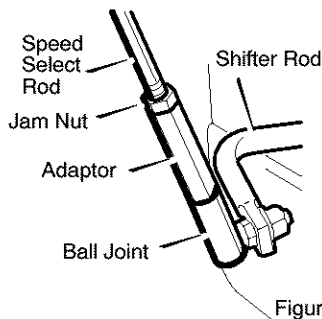

Figure 50
2. Loosen hex **jam nut** on **speed select rod**. Remove **ball joint** from **shifter bracket** (see Figure 50).
4. Turn the **adaptor** until the **ball joint** is aligned with the mounting hole in the **shifter rod** (see Figure 50). When aligned, attach the **ball joint** to the **shifter rod**.